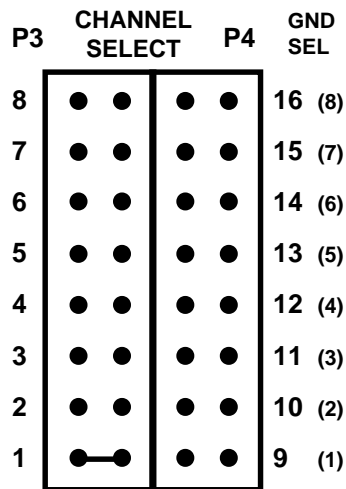
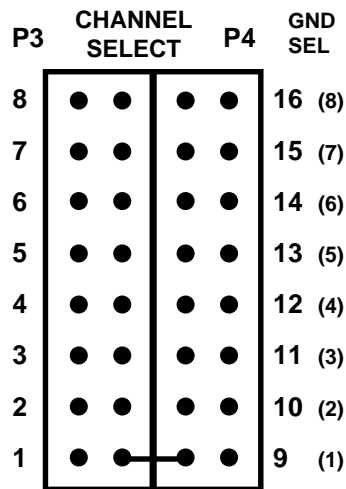

Fig. 1-3 — Connecting Channel 1 to a 16-Channel A/D Board
Fig. 1-4 — Connecting Channel 9 to a 16-Channel A/D Board
**For 16 Input Channels (single-ended on A/D board):** When you connect the TMX32 to an A/D converter board with 16 input channels, only one jumper is installed on P3 and P4. Figure 1-3 shows you how to configure the TMX32 for channel 1, and Figure 1-4 shows you how to configure the TMX32 for channel 9 when used with a 16-channel A/D converter board. Note that the leftmost row of pins on P3 carries the analog input signal for chan-